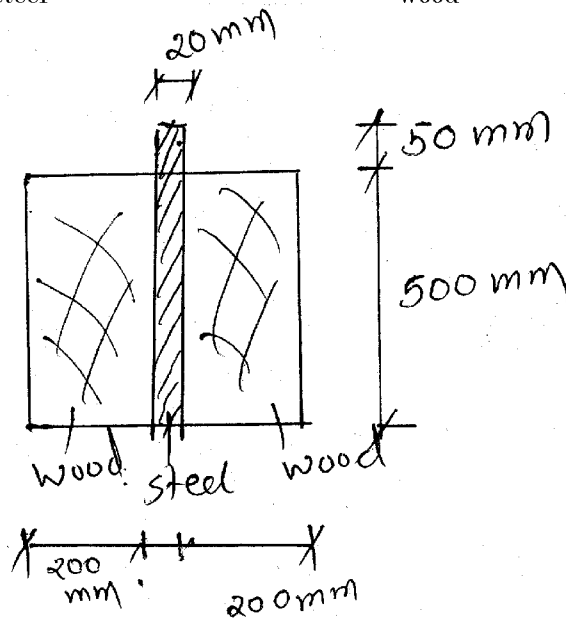

Fig. 1
- (2) Assume suitable data and specifically mention them.
- (3) Figures to the right indicate full marks.
- (4) Use of non-programmable scientific calculator is permitted.
- (5) Draw detailed drawings to support your answer.
- 1 (a) Figure 1 shows a Flitched beam consisting of two 14 timber joists and a steel plate securely bolted between them. Beam is simply supported of a span of 5 m carrying 20 kN/m udl. Calculate Maximum Tensile and Compressive stresses on both the materials.